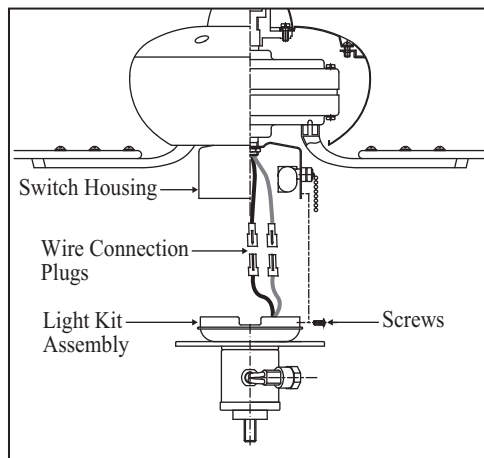

Figure 14
2. Carefully push all wires back into the switch housing, then install the light kit assembly onto the mounting plate with 3 screws provided. Be sure to tighten all screws. (Fig.14)